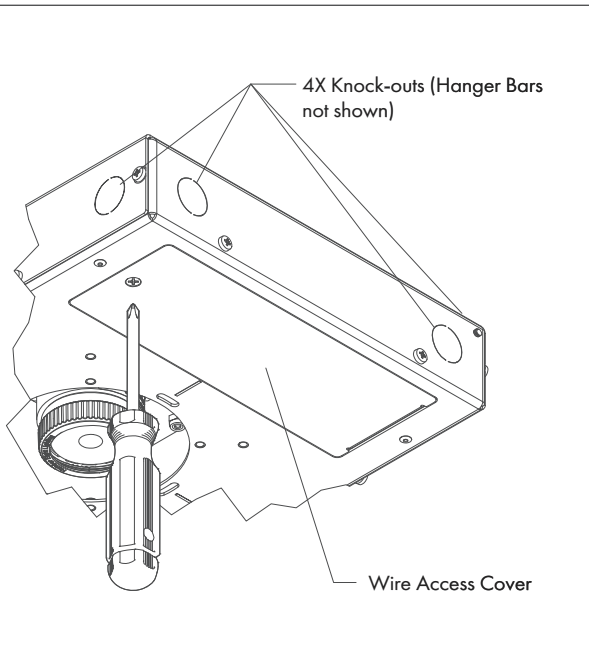

FIG 9.1 Wire Access
STEP 1 Loosen screw, open Wire Access Cover, and locate supply wiring – **FIG 9.1 and 9.2.**
STEP 2 Remove available knock-out in housing and attach supply wire using suitable wire connector - **FIG 9.1 and 9.2.**
STEP 4 Install all wiring and connections completely inside wiring compartment - **FIG 9.1 and 9.2.**
STEP 5 Replace and secure Wire Access Cover - **FIG 9.1.**